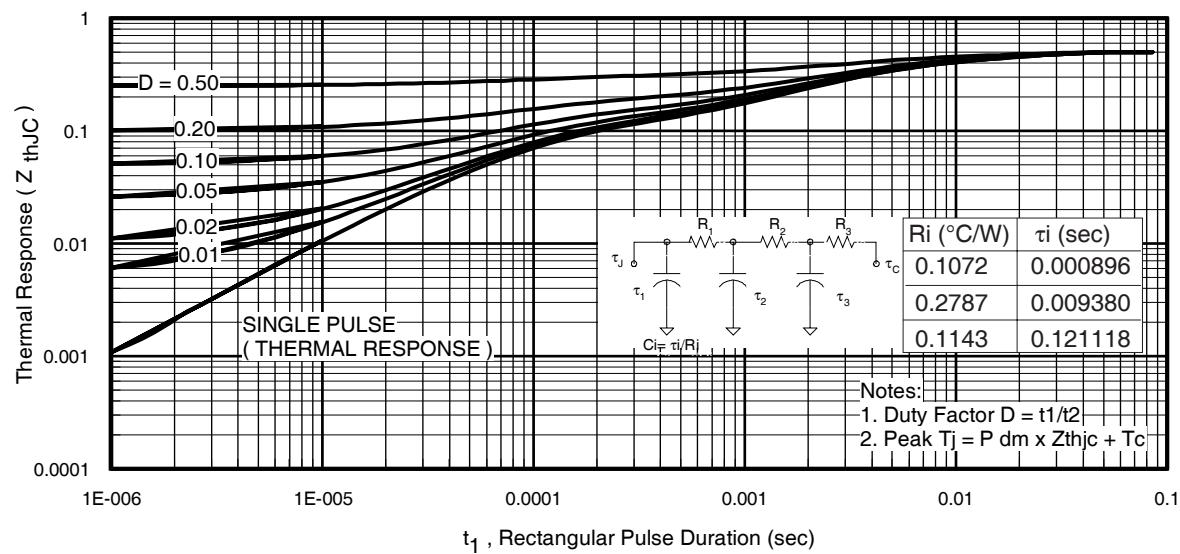
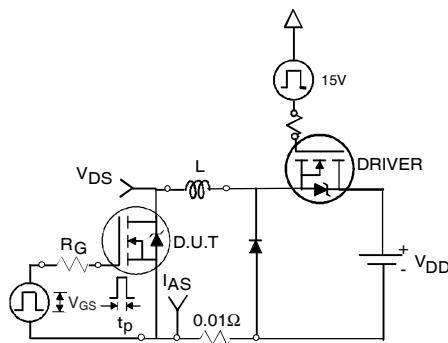

Fig 11. Maximum Effective Transient Thermal Impedance, Junction-to-Case
Fig 12a. Unclamped Inductive Test Circuit
- ① Repetitive rating; pulse width limited by max. junction temperature. (See fig. 11).
- ② Limited by $T_{J\text{max}}$, starting $T_J = 25^\circ\text{C}$, $L=0.026\text{mH}$, $R_G = 25\Omega$, $I_{AS} = 110\text{A}$, $V_{\text{GS}} = 10\text{V}$. Part not recommended for use above this value.
- ③ Pulse width $\leq 1.0\text{ms}$; duty cycle $\leq 2\%$.
- ④ $C_{\text{oss eff.}}$ is a fixed capacitance that gives the same charging time as C_{oss} while V_{DS} is rising from 0 to 80% V_{DSS} .
- ⑤ Limited by $T_{J\text{max}}$, see Fig.12a, 12b, 15, 16 for typical repetitive avalanche performance.
- ⑥ This value determined from sample failure population. 100% tested to this value in production.
- ⑦ This is applied to D²Pak, when mounted on 1" square PCB (FR-4 or G-10 Material). For recommended footprint and soldering techniques refer to application note #AN-994.
- ⑧ R_θ is measured at T_J of approximately 90°C .
3. Equation below based on circuit and waveforms shown in Figures 12a, 12b.
Z_{thJC}(D, t_{av}) = Transient thermal resistance, see figure 11)